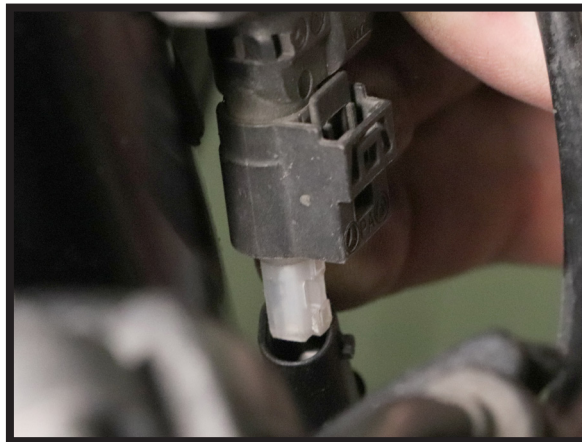

FIGURE 11
4. CONNECT ELECTRICAL CONNECTION. (FIGURE 11)